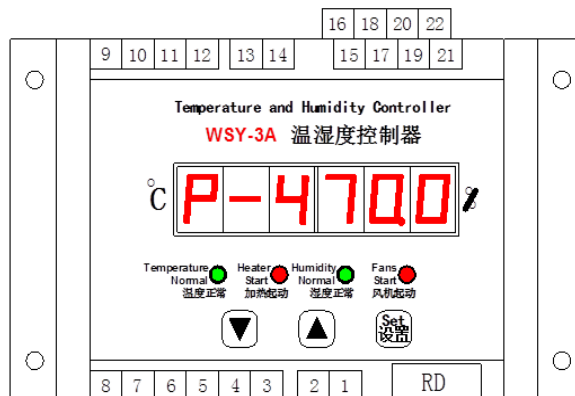

Figure 4
- Continue to press the setting button, the left three digit digital display flashes to show P-4, indicating the humidity upper limit setting value. The right three digit digital display is the numerical value, with a setting range of 0-99, which can be set through " \wedge " and " \vee " (see Figure 4).